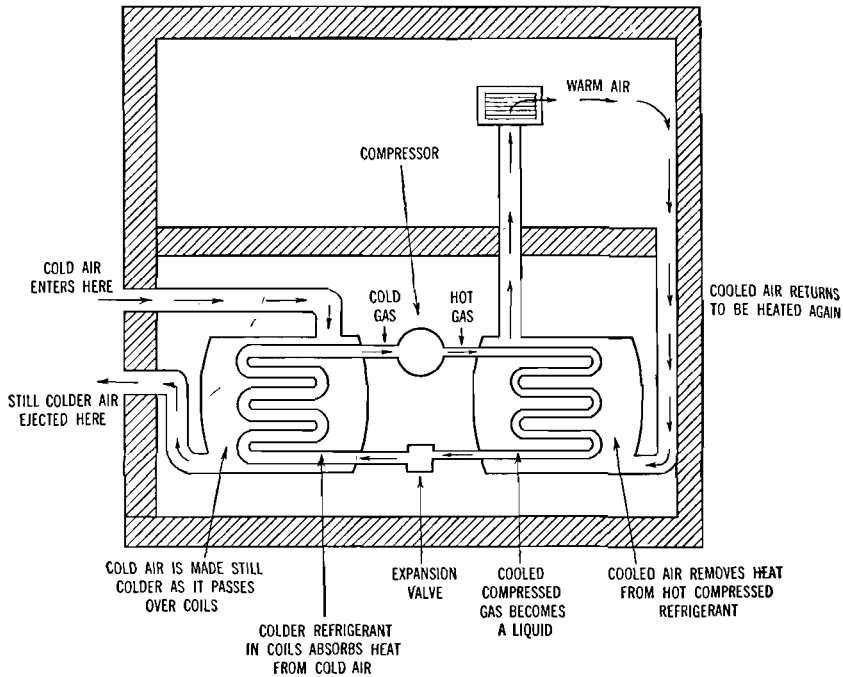

Fig. 18.10. Heating by reverse refrigeration.
**103. Heating by Reverse Refrigeration.** It will be recalled that a mechanical refrigeration system removed heat from the food compartment of a refrigerator and this heat was released from the system into the kitchen air by the condensing coils. Unlikely as it sounds, outdoor air in winter is a good source of heat, because its temperature is decidedly above absolute zero. (Air at 0°F has about 85 per cent as much heat in it as air at 70°F.) Figure 18.10 shows how a refrigeration unit may be used to heat the air in a building. Cold air enters as shown in the diagram and is then ejected at a still lower temperature. The heat which is removed from the air is absorbed by the refrigerant as it changes from a liquid to a gas in the expansion coils. This gas is compressed and its temperature rises. It then passes through the condensing coils where it gives out heat and gradually changes back into a liquid ready for another cycle. The heat which is given out as the gas passes through the condensing coils is absorbed by the air which is circulated through the house. But this heat was obtained from the cold outdoor air. The only expense for operation is for the electricity to run the system, but in places where the rate is from 1 to 2 cents per kilowatt-hour the cost of operation becomes reasonable. However, the initial cost of the apparatus is still quite high. Another possi-